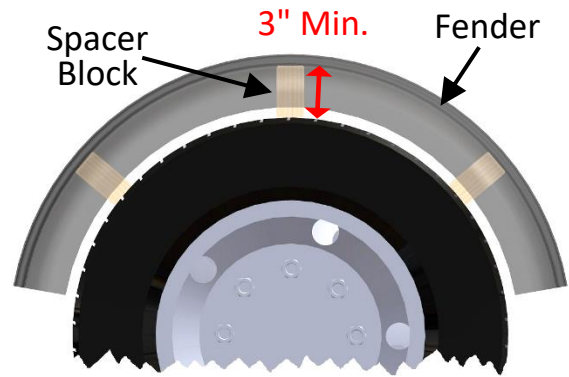

Figure 1-A
- Step 2 -** Place spacers (2x4 or 2x6 blocks work well) between the tire and fender to achieve desired clearance, see Fig. 1-A. SAE recommends a minimum clearance of 3". Some vehicles will require more clearance depending on the amount the suspension drops under a full load.